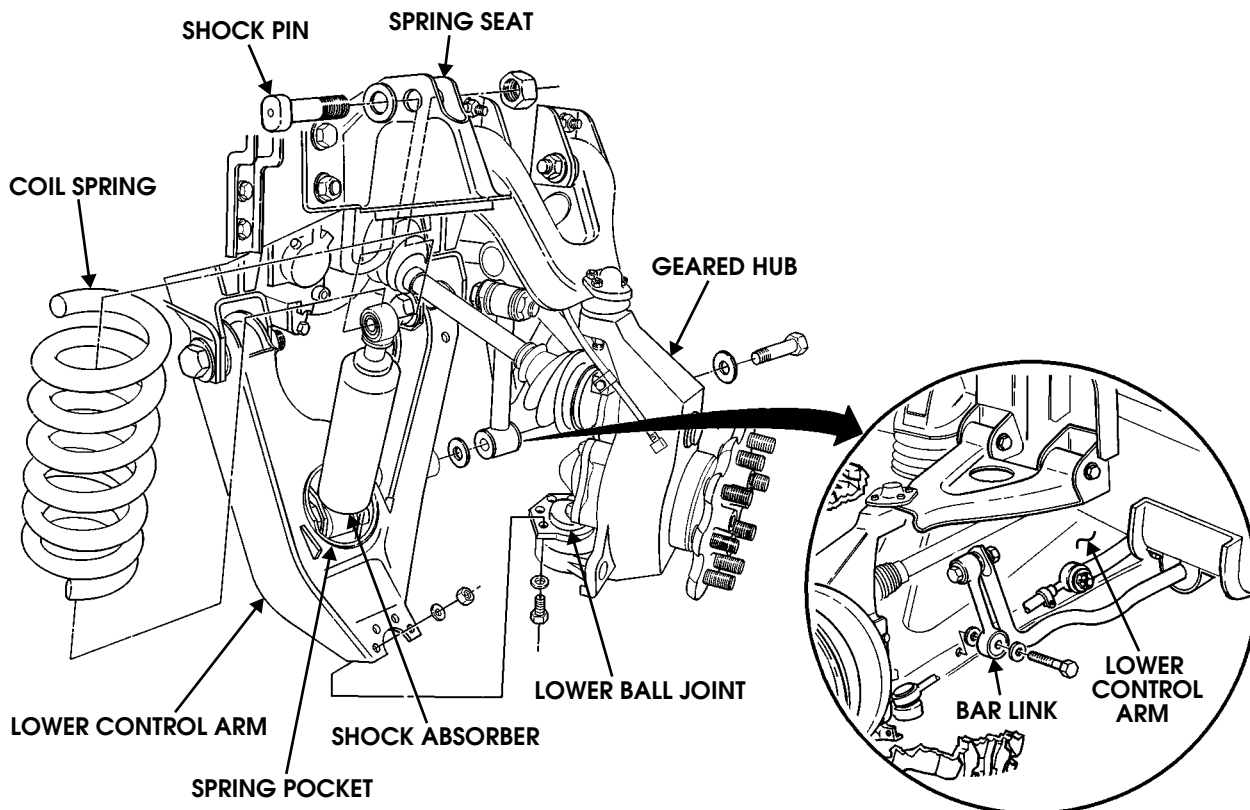

Figure 9-121: Coil Spring Replacement
3. Remove four locknuts, washers, bolts, washers, lower ball joint, and geared hub from lower control arm (Figure 9-121).
1. Install coil spring over shock absorber and onto lower control arm ensuring end of coil spring fits in spring pocket of lower control arm (Figure 9-121).